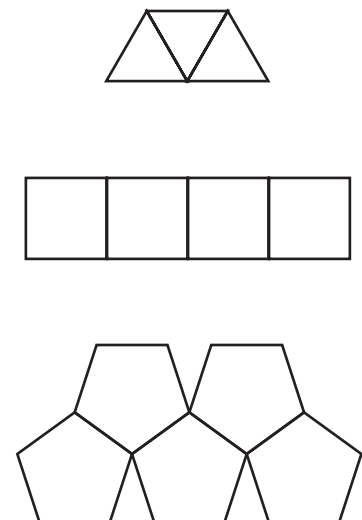

Fig. 10-11
3. The three figures in Fig. 10-11 are constructed of polygons according to the following rules: